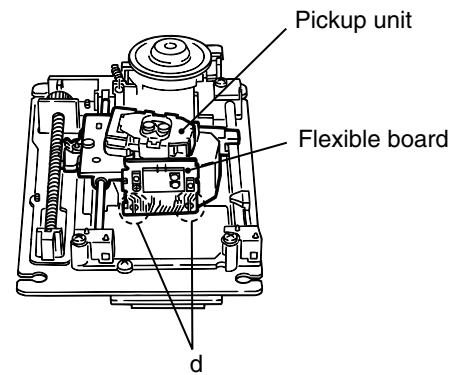

Fig.5
■ Removing the feed motor assembly (See Fig.5, 10 and 11)